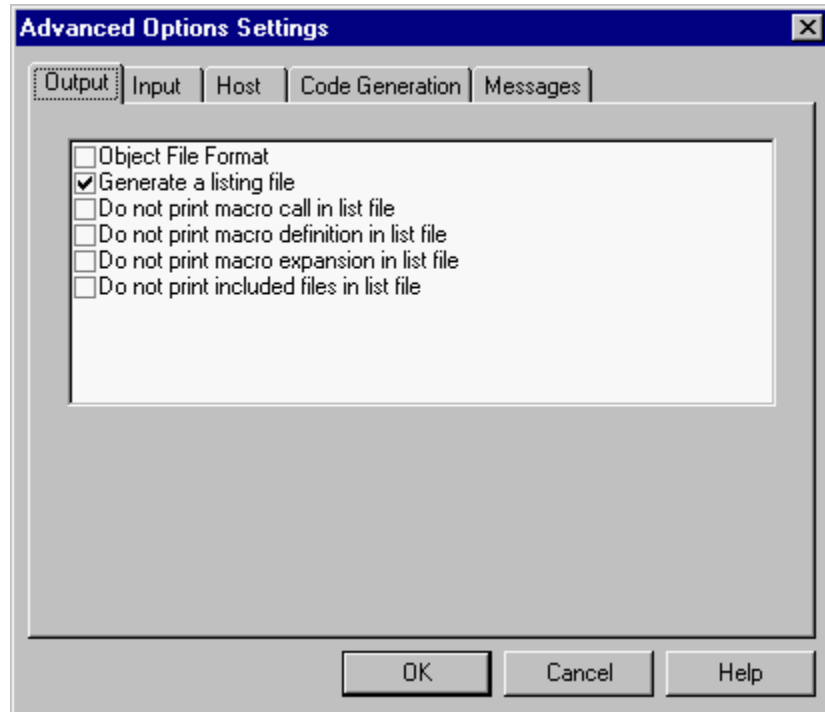

Figure 11-2. Options Setting Dialog Box
2. Select the menu entry **Assembler | Options**. The **Options Settings** dialog is displayed, as shown in **Figure 11-2**.